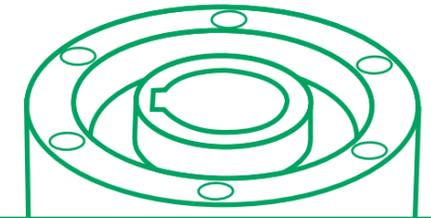

**Figure 25:** Energy savings realized with OB-ON series
**Figure 25** shows a soak pit fan used for melting aluminum and steel ingots, with a Cam Clutch being used for energy savings. The heating is done in two stages, one being quick heating and the other being constant heating. Switching is done automatically by a driving system. For quick heating, the fan is driven by the main motor at high speed (the Cam Clutch is overrunning at this time). For constant heating, the fan only rotates at low speed and is driven by a geared motor (the Cam Clutch engages and the main motor and fan rotate simultaneously).